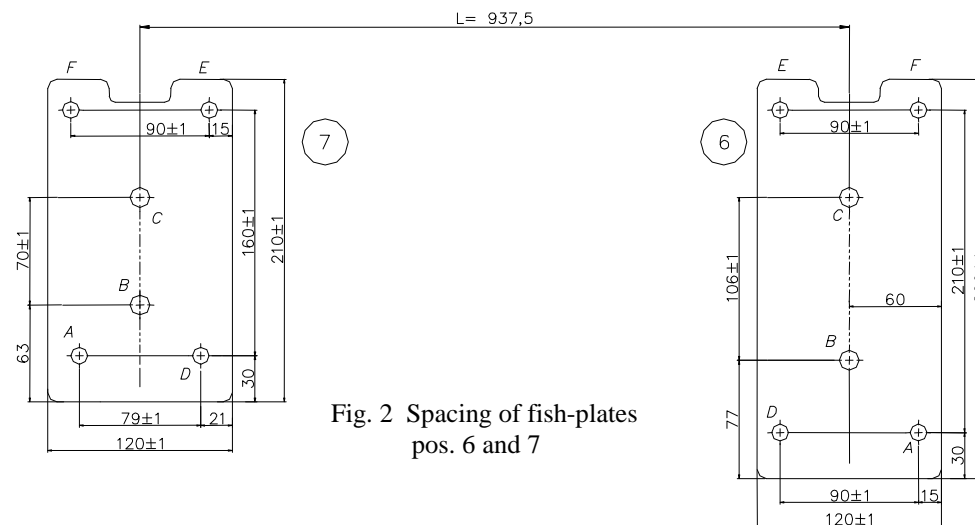

Fig. 2 Spacing of fish-plates
3. Inside trunk, on the left and right side put fish-plates 6 and 7 (see figure 2). Next fix it through hole pos. A using bolts M8x30mm (pos. 14) in points originally threaded (remove plastic plugs).
4. Arrange fish-plates in accordance to dimensions from figure 2. Next mark points of rest holes. Then drill marked points straight through: bit $\varnothing 12,5\text{mm}$ holes pos. B and C, bit $\varnothing 8,5\text{mm}$ holes pos. D, E and F.
5. Disassemble both fish-plates. Made holes pos. B and C enlarge from trunk side using bit $\varnothing 25,5\text{mm}$; to enlarged holes put distance sleeves $L=62\text{mm}$ (pos. 8).
6. Reassemble fish-plates again and in holes pos. B and C put bolts M12x100mm (pos. 10) and in rest of holes put bolts M8x35mm (pos. 14). Bolts M8 fix to the floor using big washers $\varnothing 25 \times 9 \times 2$ mm (pos. 17) and spring washers.
7. Underneath the car put side brackets (pos. 4 and 5) on bolts M12 protruding from the trunk and fix it loosely.
9. Fix handle of the muffler through hole pos. H using bolt M8x60mm (pos. 13), use distance sleeve L=30mm (pos. 9).
10. Between assembled brackets (pos. 4 and 5) put main bar of the towing hitch (pos. 1) and fix it using bolts M12x35mm (pos. 12).